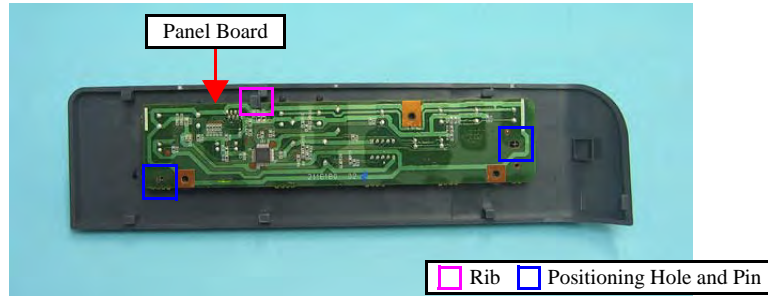

Figure 4-119. Removing the Panel Board
- When installing the Panel Board, match the positioning holes (x2) of the Panel Board with their positioning pins (x2) of the Panel Housing as shown in Figure 4-119.